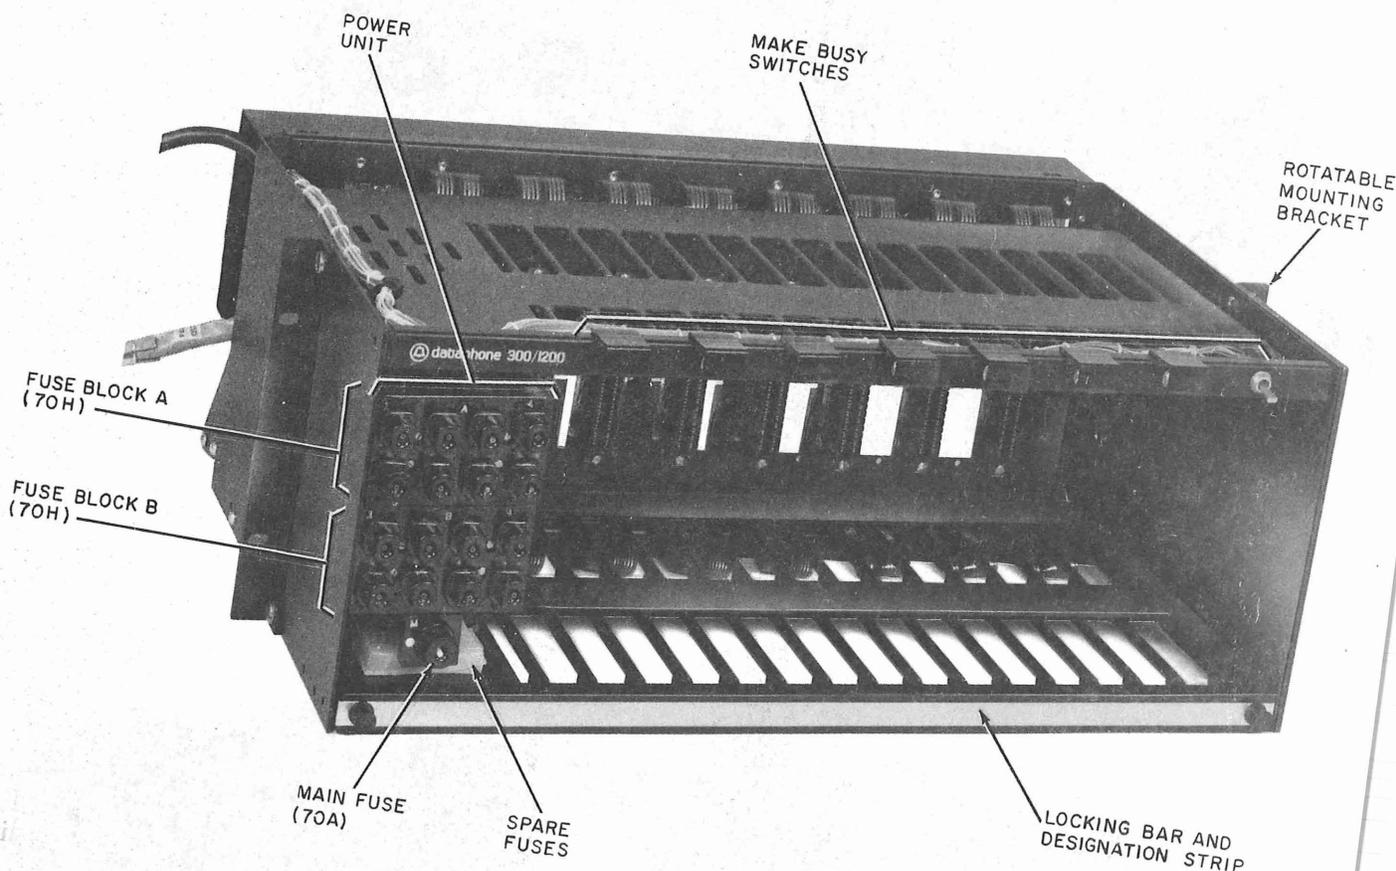

Fig. 2—40A2 Data Mounting (Shown for 19-Inch Mounting)
2.05 The 40A2 data mounting (Fig. 2) replaces the 40A1 data mounting to accommodate DS 212A in addition to the other data sets and data auxiliary set listed in paragraph 2.03. It is the same as the 40A1 except for the following: